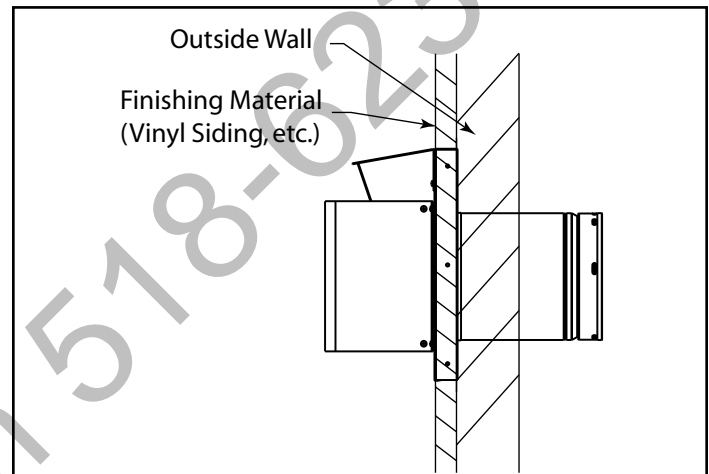

Figure 19 - Termination cap on wall
- Termination cap MUST NOT be recessed into a wall (see Figure 19).